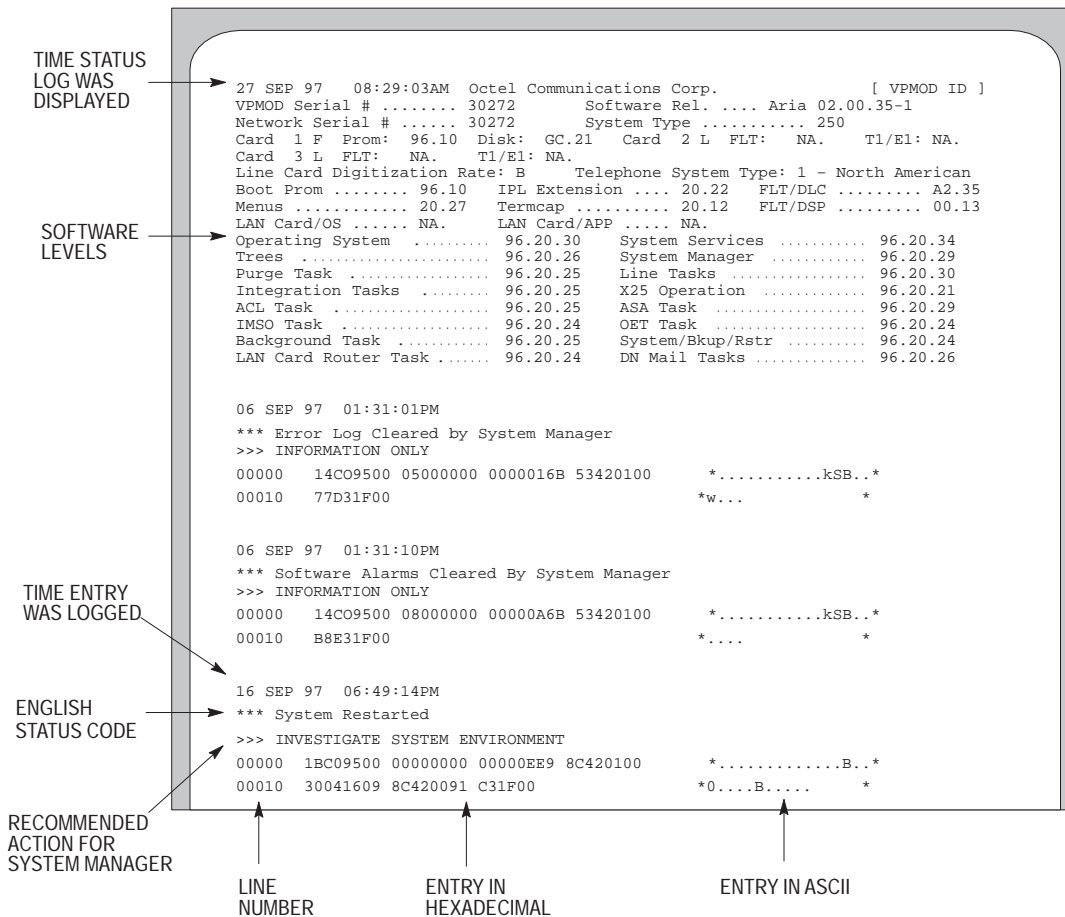

Figure 8-3. Example of Menu 13.2 or Offline Menu 20.9 Status-Log Display (Aria 2.0).
Menu 13.2, shown in Figure 8-3, is a snapshot of the status-log buffer for Aria 2.0. The status log can be printed and cleared from menu 13.2.
2. From the Main Menu, access Menu 13 – System Maintenance, then option 2 – Review Status Log. An inventory of the server's internal software levels is displayed, followed by the status-log entries in chronological order, starting with the oldest entry. Press the space bar to pause scrolling or to resume scrolling. Press **Ctrl+C** or **Break** to end scrolling. The beginning of the display and all printouts are similar to the example in Figure 8-3.
Offline menu 20.9 displays a snapshot of the status-log buffer (Figure 8-3). The status log can be printed and cleared from the offline menu 20.9.
4. From menu 20, select option 9 – Display Status Log. An inventory of the server’s internal software levels is displayed, followed by the status-log entries in chronological order, starting with the oldest entry. Press the space bar to pause scrolling or to resume scrolling. Press **Ctrl+C** or **Break** to end scrolling. The beginning of the display and all printouts are similar to the example in Figure 8-3.
Selected parts of the status log shown in Figure 8-3 are described as follows: